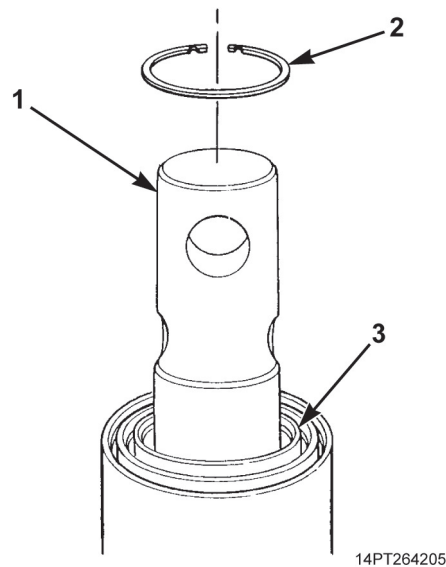

Figure 1. Retaining Ring Removal.
1. Using overhead lifting device with nylon sling, move hydraulic cylinder assembly to a vertical position with plunger (Figure 1, Item 1) facing upward. Securely block hydraulic cylinder in vertical position.
2. Remove retaining ring (Figure 1, Item 2) from sleeve (Figure 1, Item 3).